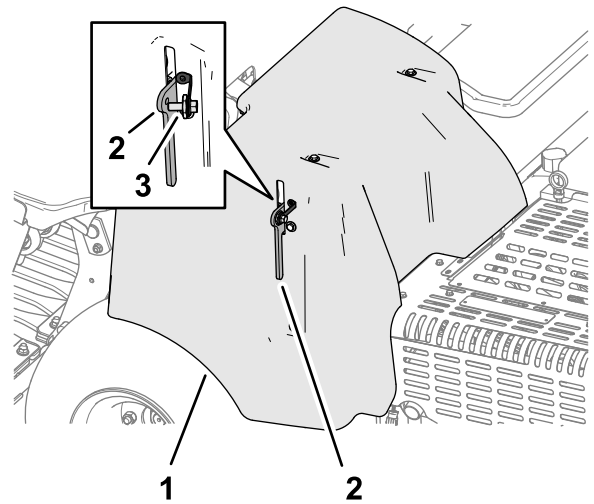

Figure 130
1. If your machine has the CE belt-cover latch lanyard, loosen the lanyard bolt until it separates from the cover latch (Figure 130).